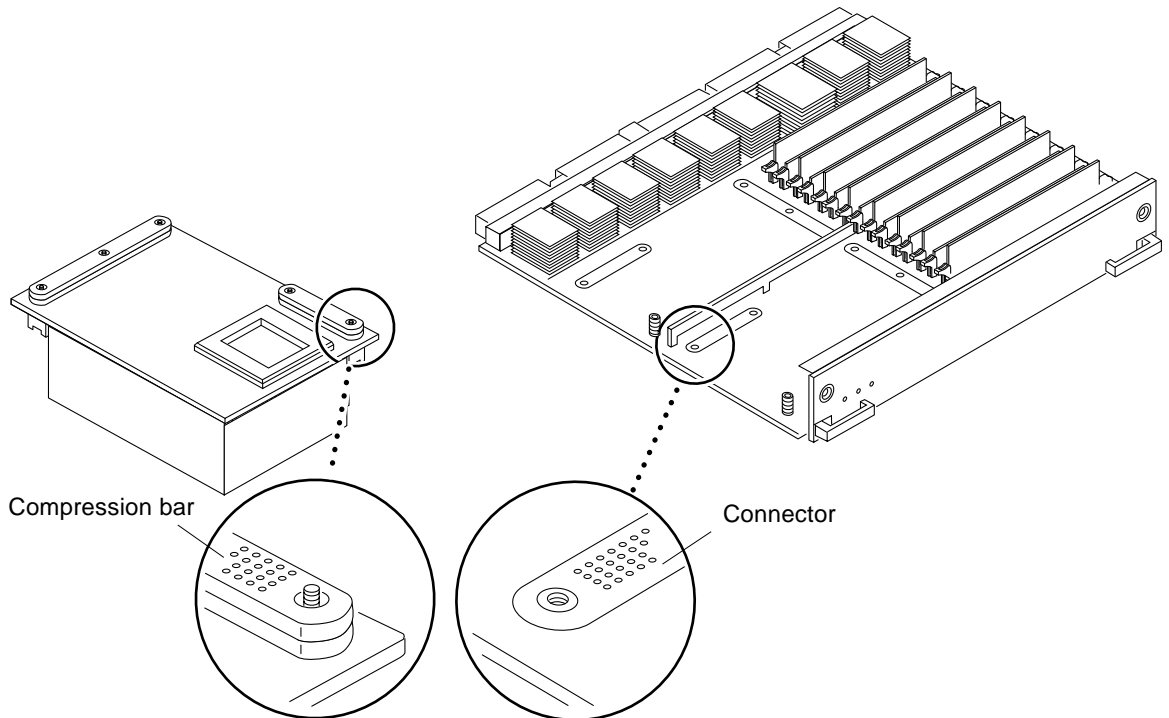
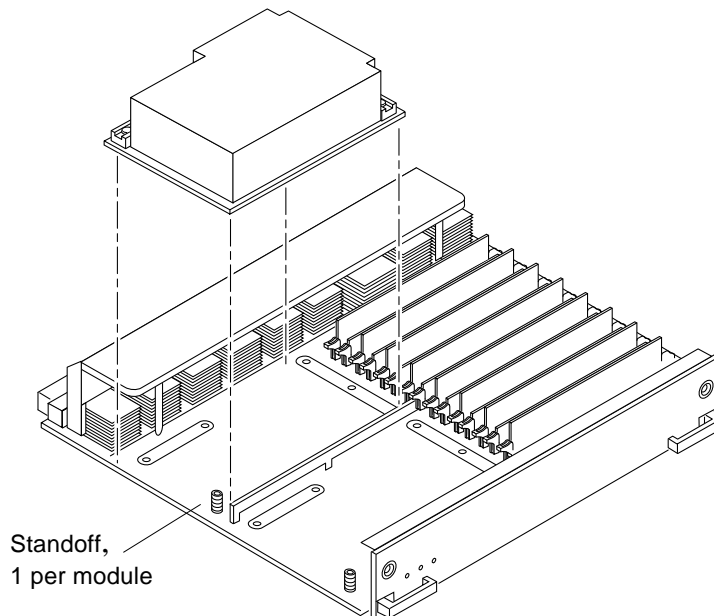

FIGURE 3-6 UltraSPARC II Module Connector Detail
FIGURE 3-7 UltraSPARC II Module Removal and Replacement
Each module is locked to the main board with a single standoff and is connected to the main board by two connectors. The pins within the connectors are compressed to the corresponding board pin receptacles by a metal compression bar which, when secured with screws, compresses the module connector pins to the board receptacle pins (FIGURE 3-6).
3. Lift the module straight up off the board mating surface and the single standoff that locks the module to the board (FIGURE 3-7).
- 4. Holding the module by the edges, align the module over the two board receptacles (use the single standoff and the alignment pins on the module compression connector as a guide). See FIGURE 3-6 and FIGURE 3-7.**